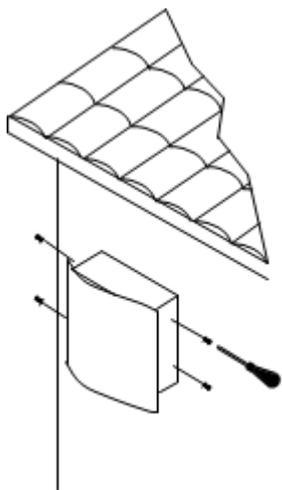

Fig 8
6. Push the front cover all the way onto the back cover (Fig 8 & 9).